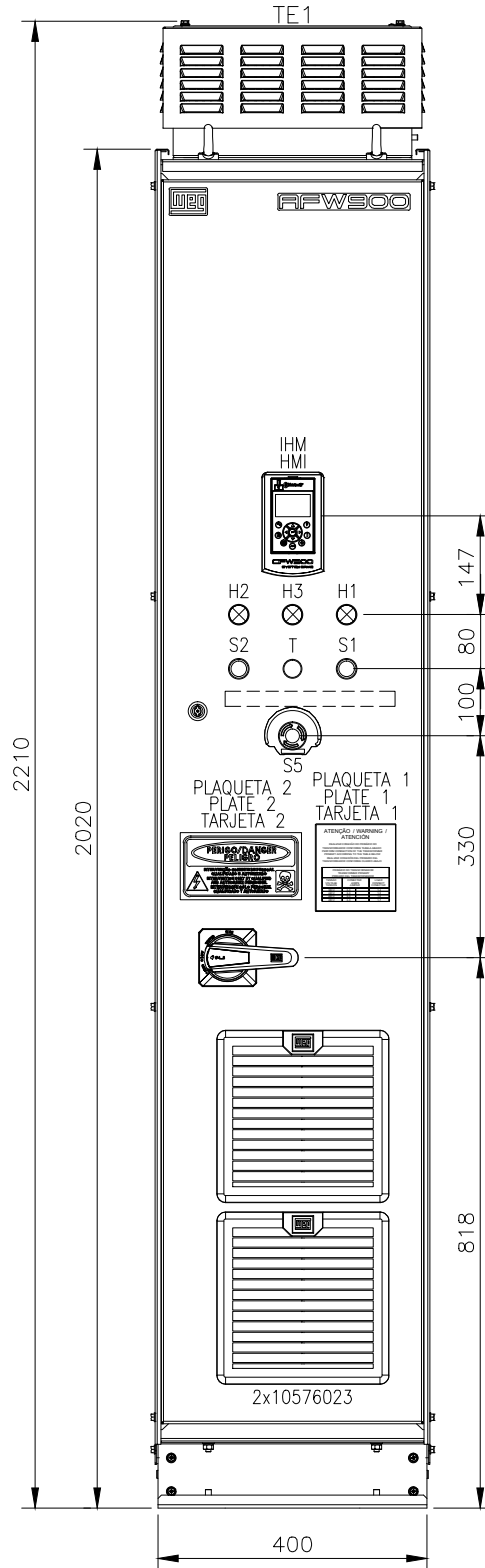

Figure 4.6: Mechanical details: Frames D and E (Disconnect Switch)
- The AFW900 must be connected to the power supply line according to the project (Phase R/S/T) and to the Earth Bar (grounding of the structure), as shown in Figure 4.6 on page 27.